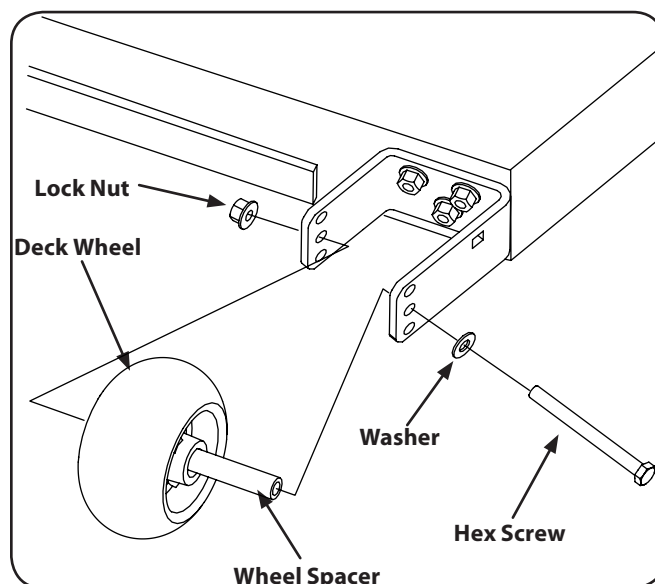

Figure 6-7
2. Remove the lock nut securing one of the front gauge wheel shoulder screws to the deck. Remove the gauge wheel and hex screw. Refer to Fig. 6-7.